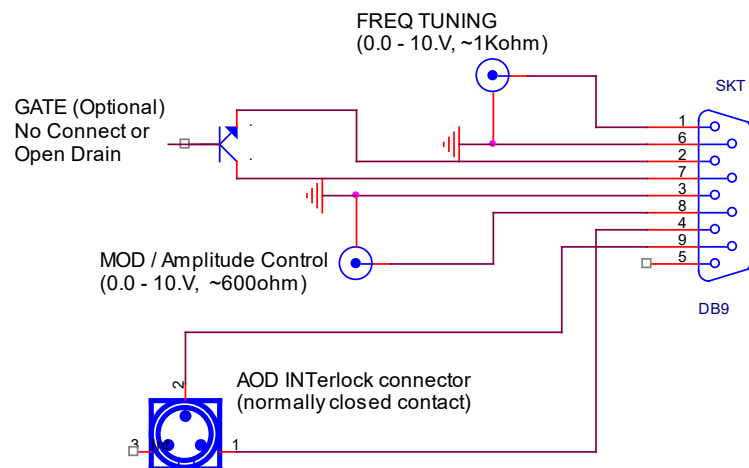

Figure 1:
The RFA3x0-2 Deflector Driver, figure 1, is a modular, swept-frequency RF power source specifically designed to operate with acousto-optic deflectors. The driver accepts a tuning voltage, typically between approximately +0 volts and +10 volts and provides an RF output to the acousto-optic deflector at the tuned frequency. The driver also accepts an analogue amplitude modulation signal. This provides for intensity control and/or fast amplitude modulation across the scan range.
4. INSTALLATION AND ADJUSTMENT (see Figures 1, 4, 6)